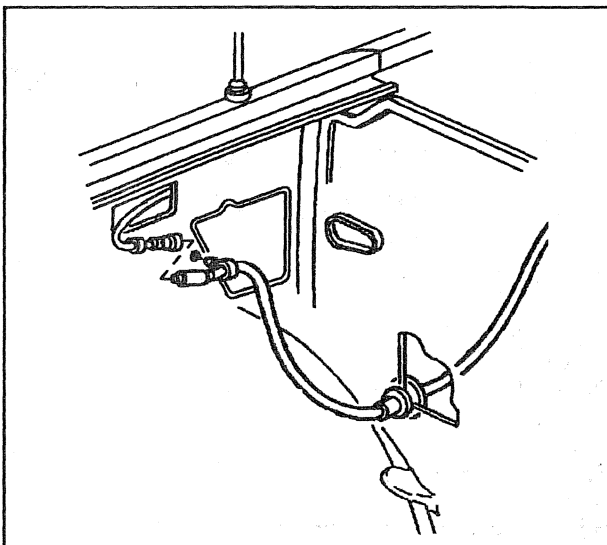

Figure 39—Antenna Extension Cable Routing to Antenna
4. Extension cable from antenna (figure 39).
3. Extension cable to antenna (figure 39).